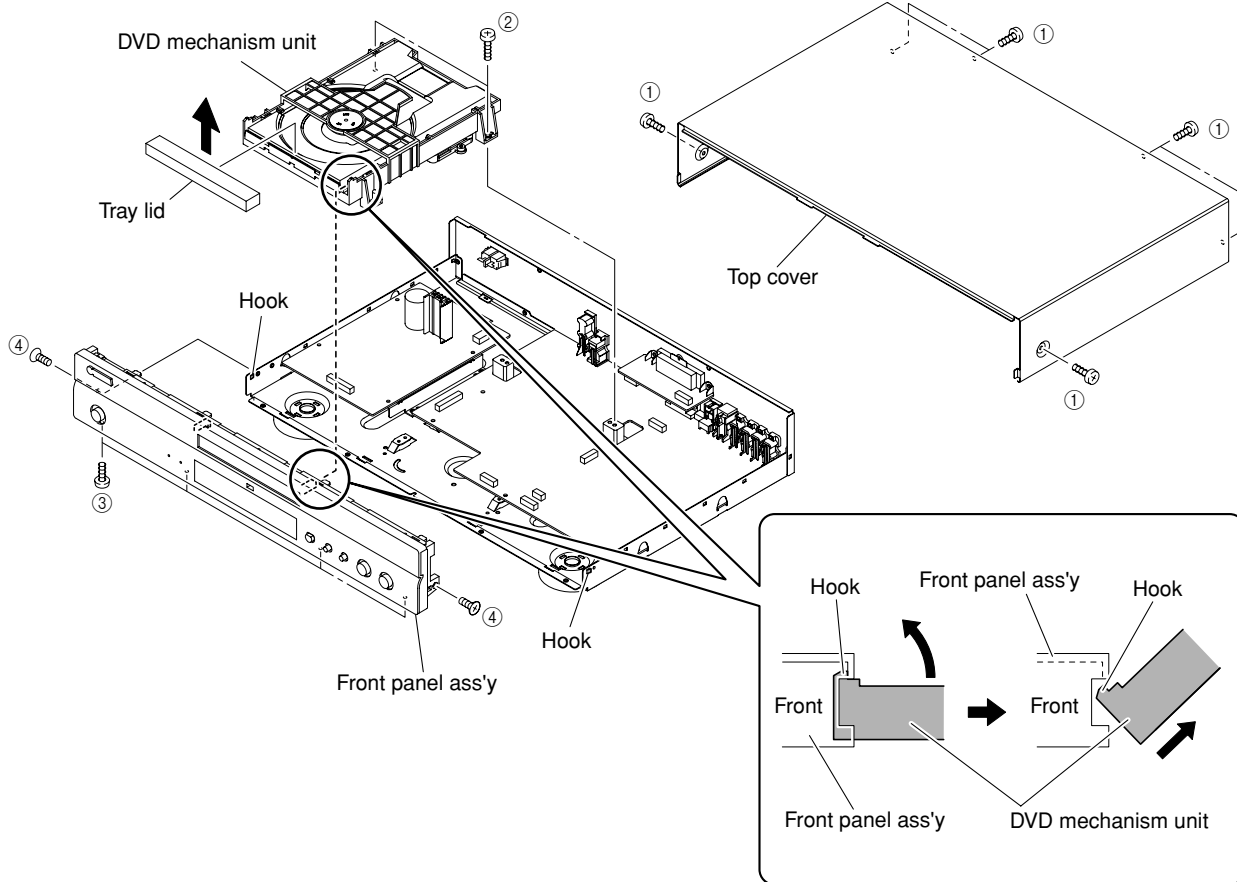

Fig. 1
- a. Remove 6 screws (①). (Fig. 1)
- b. Lift up the rear side of the top cover, then remove rearward. (Fig. 1)
- b. Remove the tray lid upward and close the tray. (Fig. 1)
- c. Remove 2 screws (②). (Fig. 1)
- f. Lift up the rear side of the DVD mechanism unit, then remove 2 hooks and remove rearward. (Fig. 1)
- a. Remove 4 screws (③). (Fig. 1)
- b. Remove 2 screws (④). (Fig. 1)
- d. Remove 2 hooks and then remove the front panel ass'y forward. (Fig. 1)